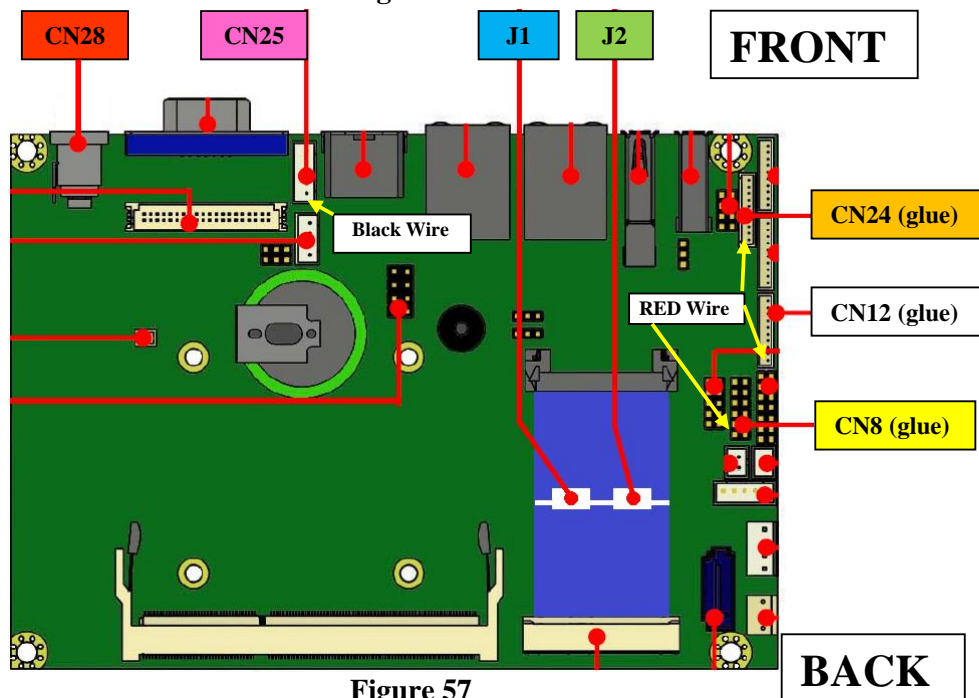
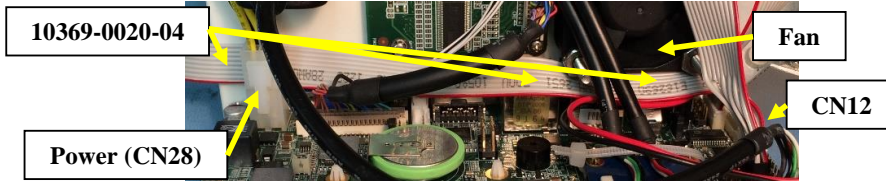

Figure 57
Figure 58
20.13. Attach the Cables to the MB80580 Computer of the CPU Assembly (see Figure 57):
- Route the wire of the second MB80580 COM Cable (10369-0020-04) behind the Power connection (CN28) of the Computer with the red wire down as shown in Figure 58. Then route the wire under the fan and connect to CN12 (see Figure 57) of the Computer with the red wire (pin 1) away from the front of the Computer. Use a small amount of hot glue to secure the connection.